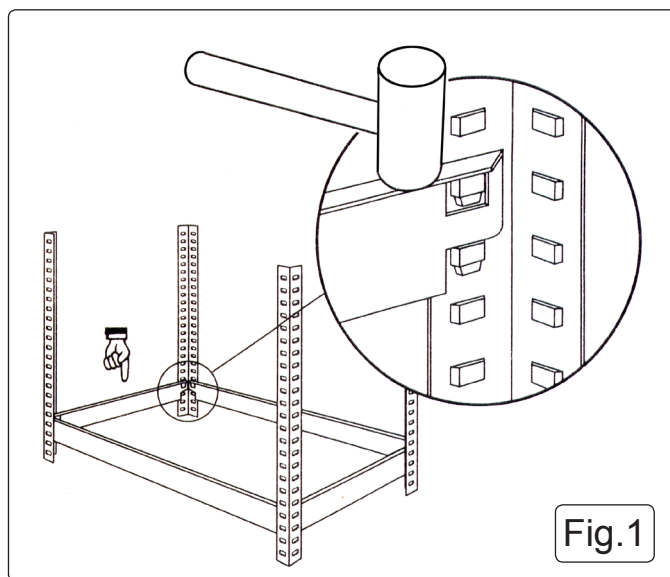

Fig.1
- 4.1** Assemble the frame using a soft faced hammer or mallet as shown in Fig.1. If only a hard faced hammer is available hammer onto a piece of wood to avoid damaging the paint surface. Always hammer gently as close as possible to the uprights. Make sure that the shelf support tabs are in line with the leg angle slots. If the tabs and slots are not lining up do not
- 4.2** See Fig.1. Decide on the position/height of the bottom shelf. Make an end frame by fitting 1 short shelf support between 2 leg angle sections. Make a second end frame ensuring that the shelf support is at the same height as the first end frame. Join the two end frames together using 2 long shelf supports fixed at the same height as the short shelf supports.